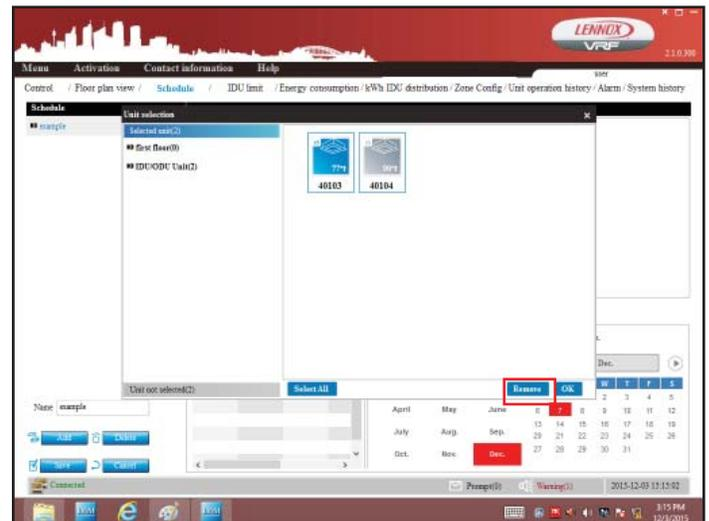

Figure 31. Complete Removal of Indoor Units
3. Tap the Remove button in the lower right of the window to remove the selected units from the schedule. See figure 31.